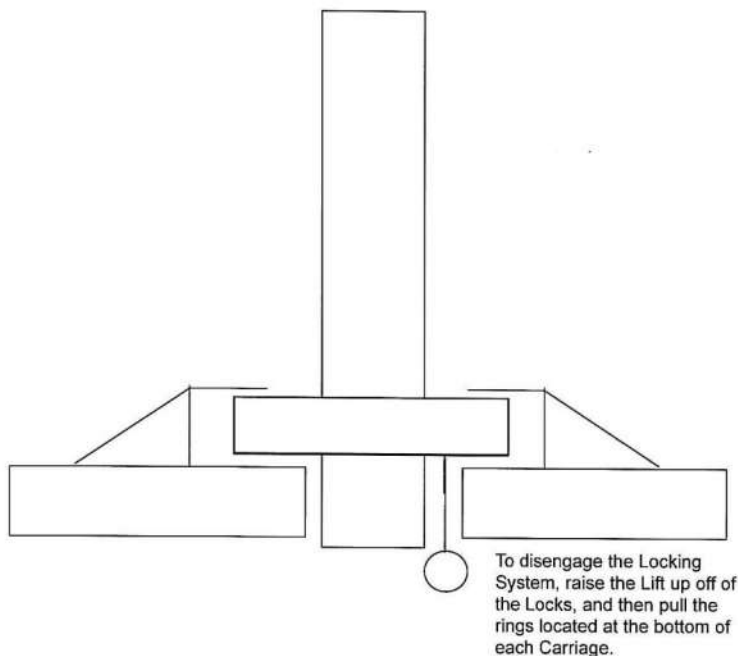

Figure 6
- Raise the lift off the latch(lock) by pushing the power button, this will enable you to pull each release cable ring located at the bottom of both carriages. See Figure 6. Pull down on the lowering valve handle(lever) on the power unit and lower the lift all the way to floor. Raise the lift again and listen for the clicking of the safety locks in each column. **Determine which side is slower and tighten the adjusting bolt on the opposite side carriage.** Remember to only tighten a few turns at a time until the both locks click at the same time when raising the lift. Cycle the lift up and down. Repeat the adjustment until the carriages are within a 1/4" of each other or the clicks are almost at the same time with each side. When cables are adjusted properly they should be fairly tight.